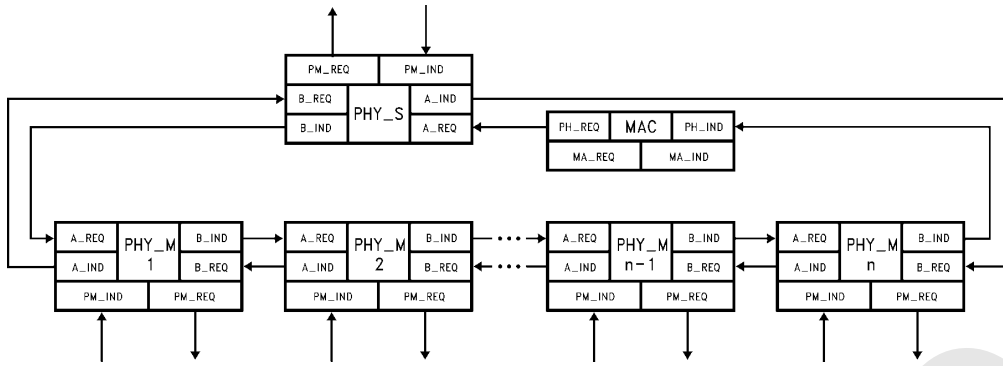

FIGURE 3-15. Single Attach Concentrator (SAC), Single MAC
*Figure 3-15* shows a Single Attach concentrator with a single MAC.